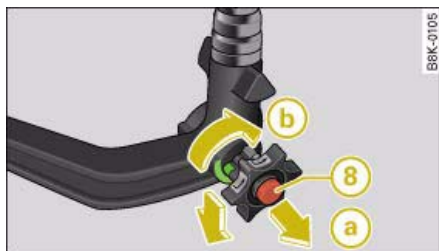

Fig. 214 Removable towing bracket: Removing the ball joint
- Take off the cover cap and insert the key (8) => fig. 214 in the lock on the knob.